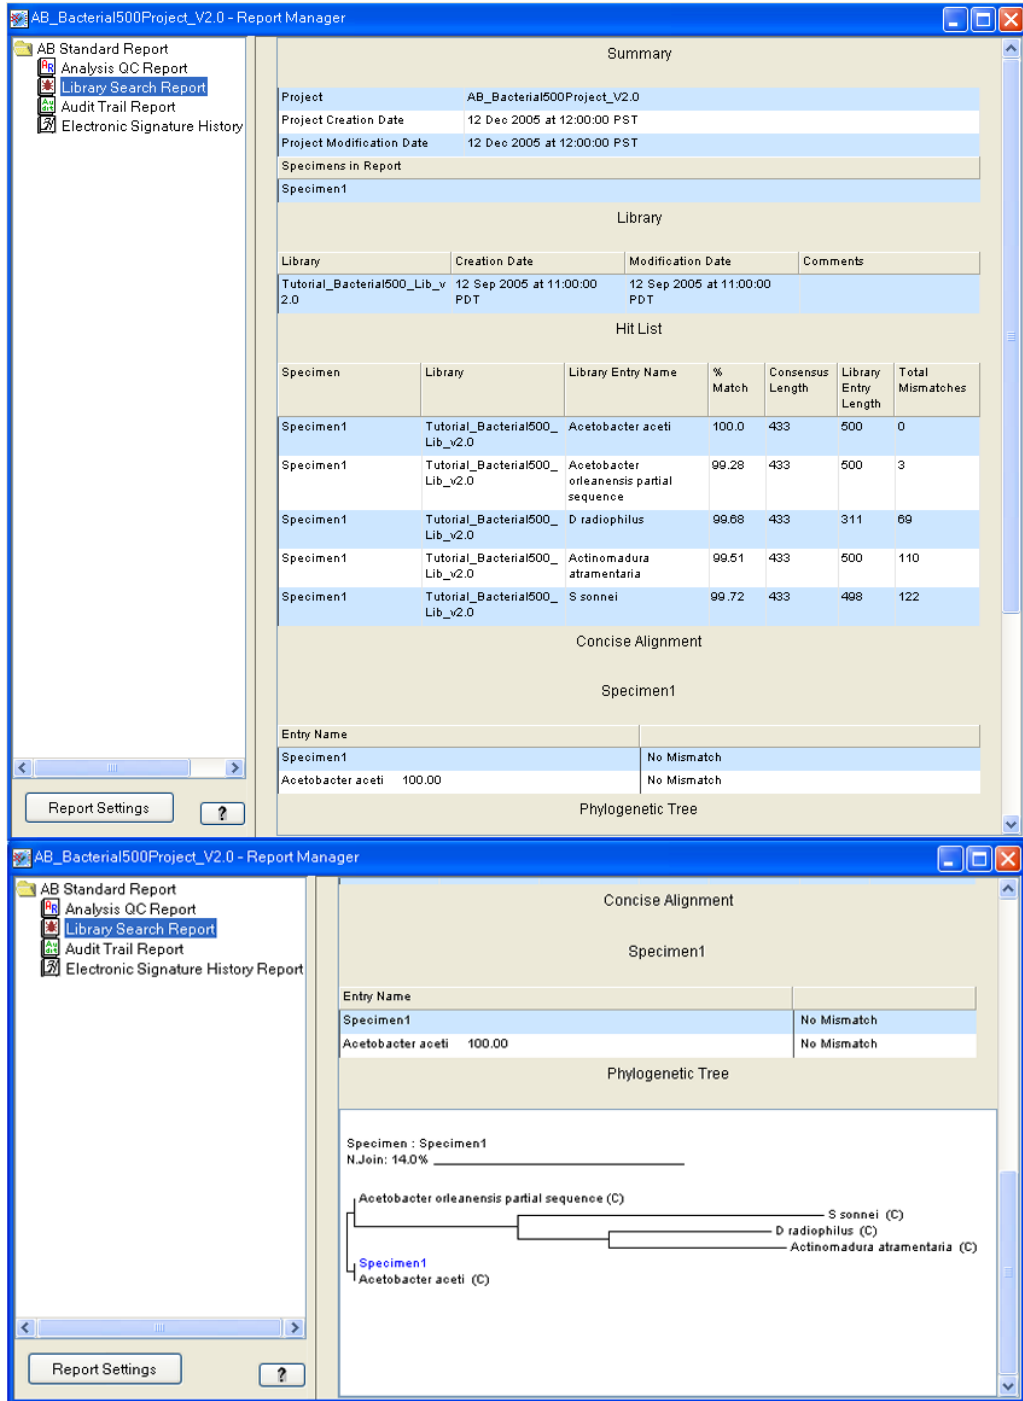

Figure 2 Example Library Search Report
- **Library Search Report** – Provides more detailed information about the libraries that were searched, including a list of all the top matches and the total number of bases searched. See Figure 2.